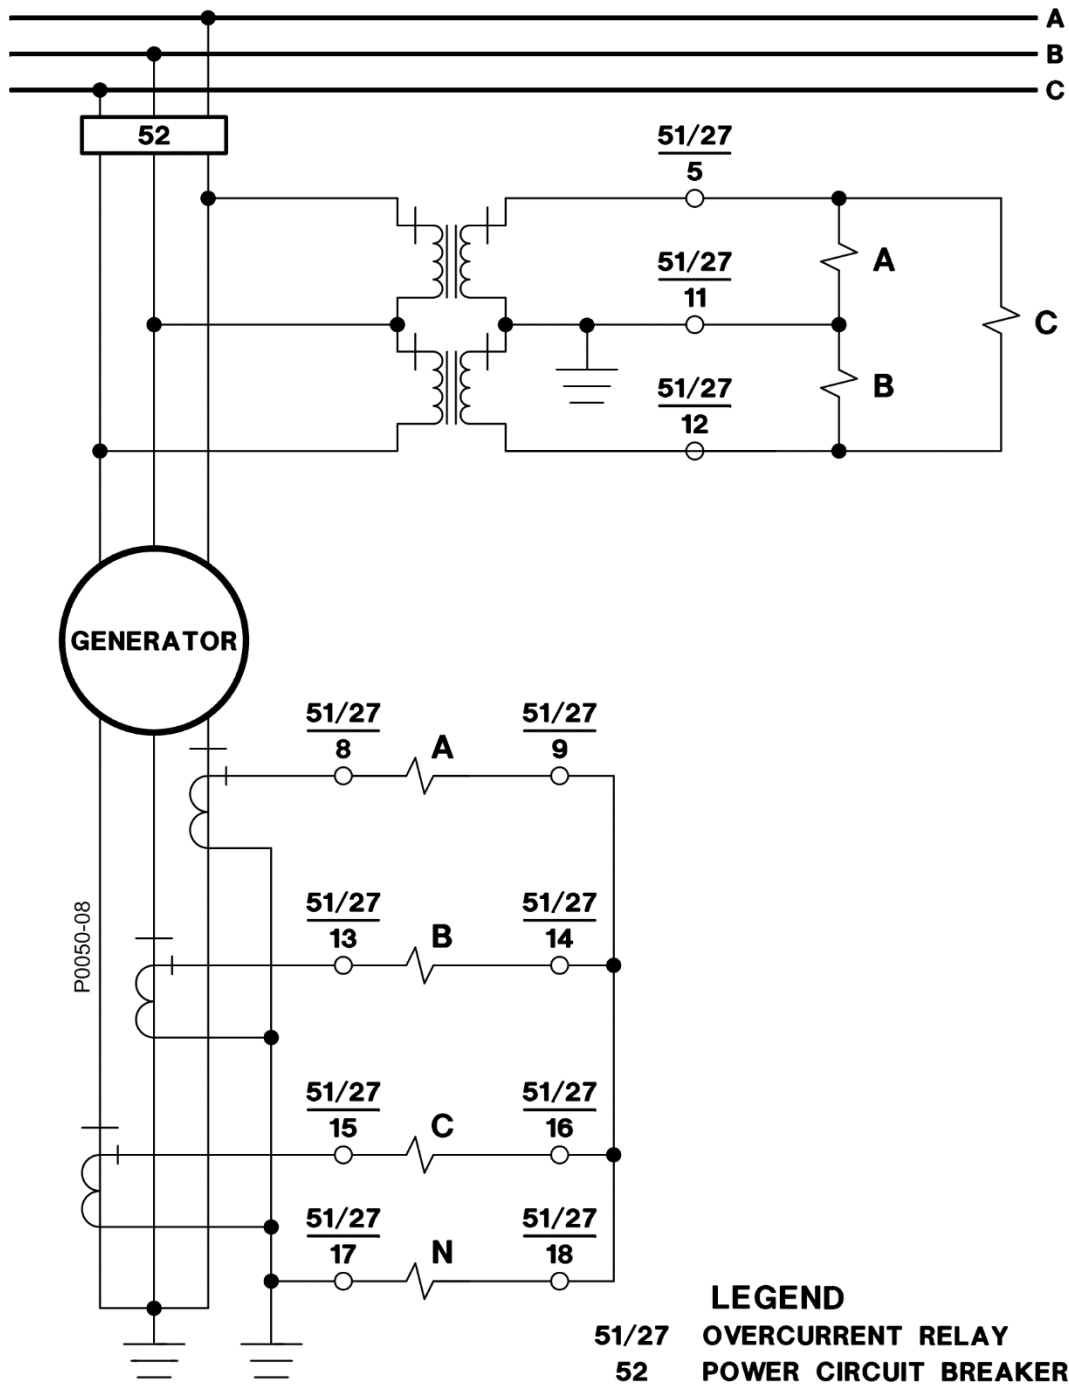

Figure 4-18. Typical Sensing External Connections, Sensing Input Type E or F
- Figure 4-18: Typical Sensing External Connections, Sensing Input Type E or F